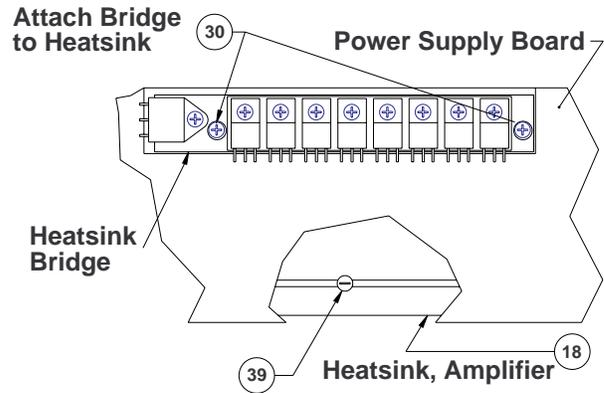

Figure 9. Heatsink Bridge
17.7 Remove two screws (30) from the heatsink bridge with a phillips-head screwdriver. Refer to Figure 9.